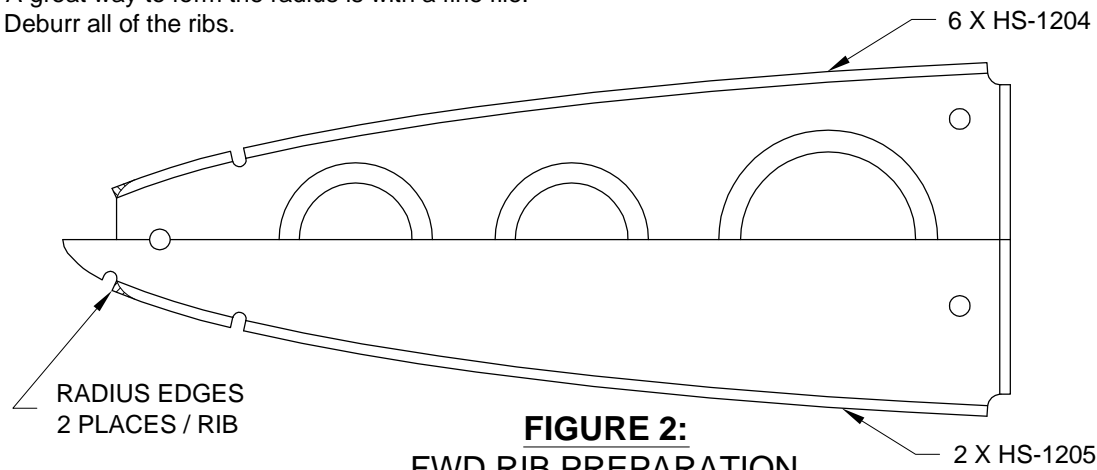

FIGURE 2:
Step 2: Radius the edges at the narrow end of the HS-1204 Fwd Inbd Ribs and HS-1205 Fwd Outbd Ribs as shown in Figure 2.